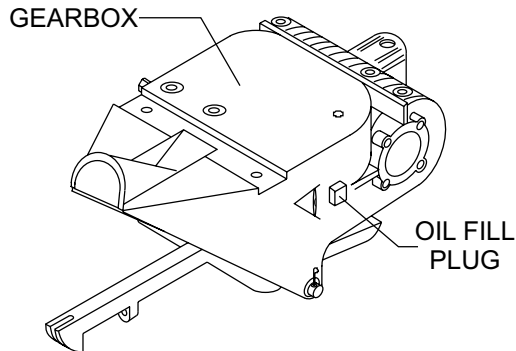

Figure 8. Gearbox Oil
- Determine if gearbox oil is low by removing the oil plug located on the side of the gearbox (Figure 8). This plug will be marked by the 'check' decal. The correct level of gearbox oil is to the bottom of the fill plug.